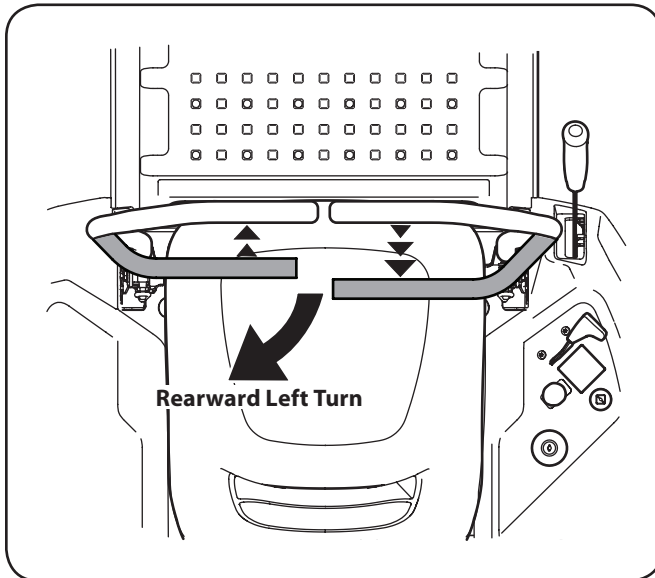

Figure 5-7
1. To turn to the left while traveling in reverse, move the left drive control lever forward of the right lever. See Fig. 5-7.